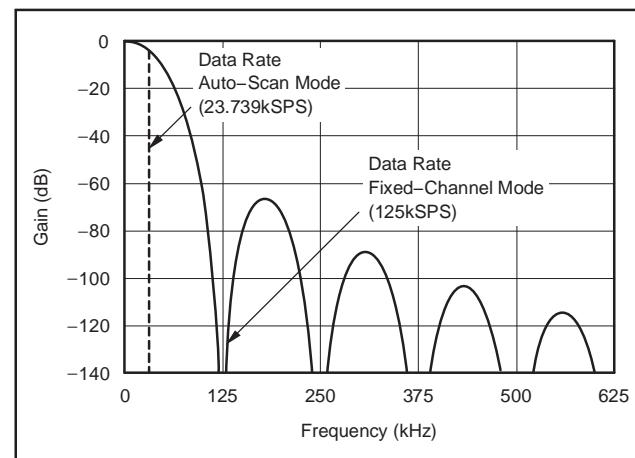
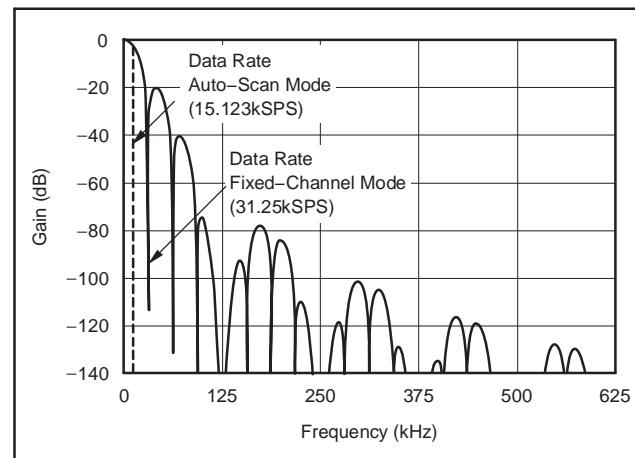

Figure 42. Frequency Response, DRATE[1:0] = 11
Figure 43. Frequency Response, DRATE[1:0] = 10
The low-pass filter has notches (or zeros) at the data output rate and multiples thereof. The $sinc^5$ part of the filter produces wide notches at $f_{CLK}/128$ and multiples thereof. At these frequencies, the filter has zero gain. **Figure 42** shows the response with no post averaging. Note that in Auto-Scan mode, the data rate is reduced while retaining the same frequency response as in Fixed-Channel mode.
Figure 43 shows the response with averaging set to 4 (DRATE[1:0] = 10). 4-reading, post-averaging produces three equally-spaced notches between each main notch of the $sinc^5$ filter. The frequency response of DRATE[1:0] = 01 and 00 follows a similar pattern, but with 15 and 63 equally-spaced notches between the main $sinc^5$ notches, respectively.
(2) Num_Ave is the number of averages performed by the digital filter second stage.
(3) In Auto-Scan mode, the data rate listed is for a single channel; the effective data rate for multiple channels (on a per-channel basis) is the value shown in **Figure 42** and **Figure 43** divided by the number of active channels in a scan loop.
Referring to Figure 42 and Figure 43, frequencies present on the analog input above the Nyquist rate (sample rate/2) are first attenuated by the digital filter and then will alias into the passband.